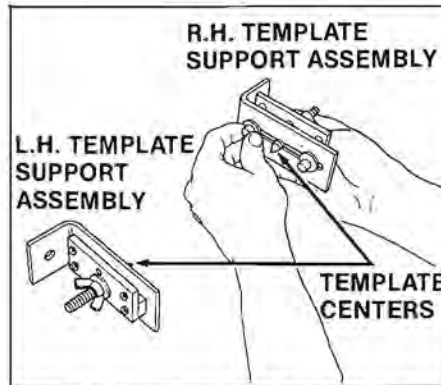

Figure 8. Attach each template support assembly to a bracket, making a left-hand and a right-hand template support assembly.
**1. Assemble the two template support assemblies.** The two template support assemblies (1 thru 8) are preassembled. Remove the two screws (8) and washers (7) from each assembly. Use the removed screws and washers to attach each template support assembly to a bracket (9), making a left-hand and a right-hand template support assembly. When installed on the channel, the template centers must point toward each other. (See Figure 8.) Tighten the screws (8) finger tight. They will be tightened securely during alignment and adjustment.